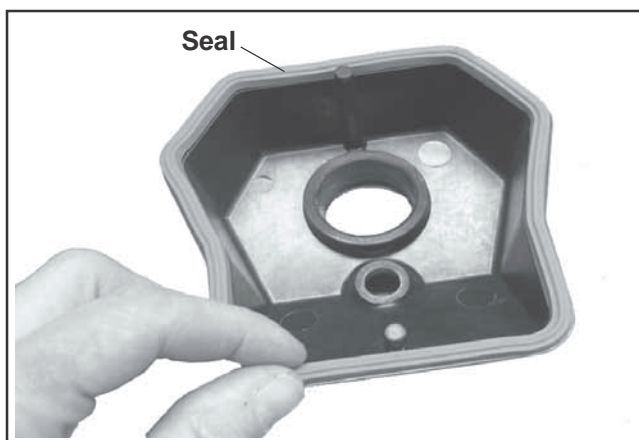

Figure 10-56. Installing Seal on Valve Cover.
2. Install and properly seat the seal onto each of the valve covers. See Figure 10-56.